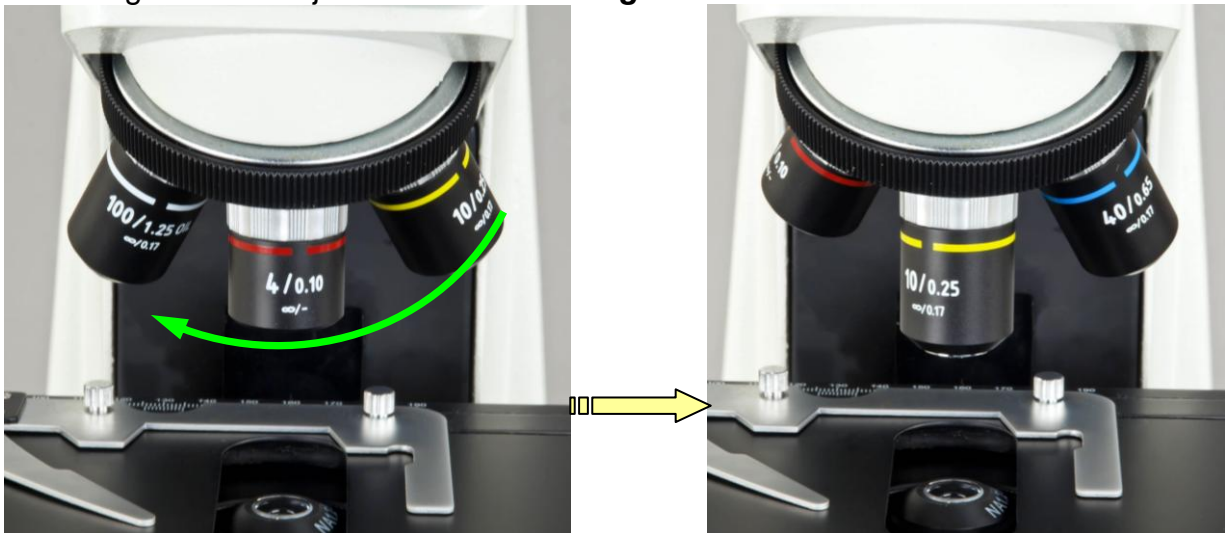

Fig.2
- 3) Take the objectives out from the plastic cases and turn each one clock-wise into the holes on the nosepiece. Install the 4X objective into the nosepiece first. Then in a counter-clockwise direction, rotate the nosepiece and install each succeeding higher magnification objective as shown in **Fig. 2**.